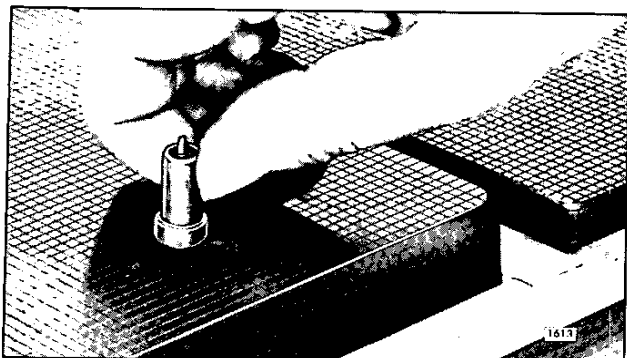

Fig. 25 – Lapping Spray Tip on Lapping Blocks J 22090
3. Place the part to be lapped flat on the block (Fig. 25) and, using a figure eight motion, move it back and forth across the block. Do not press on the part, but use just enough pressure to keep the part flat on the block. It is important that the part be kept flat on the block at all times.